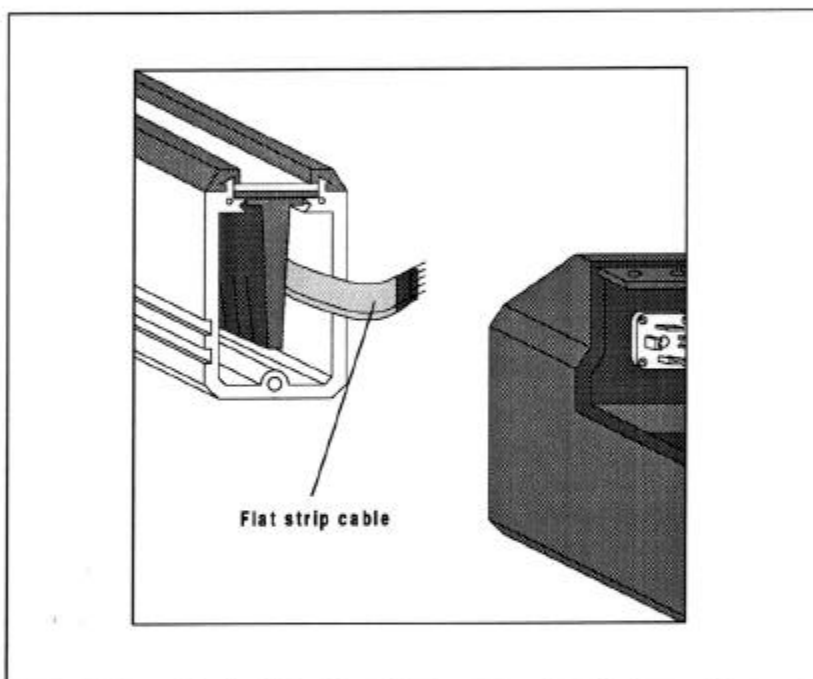

Figure 12.4 Unplug flat strip cable when removing bottom section
- 1 hexagon allen key 4 mm wide
3. Unscrew allen socket screws in bottom section, remove bottom section carefully and unplug flat strip cable from bottom section (Figure 12-4).